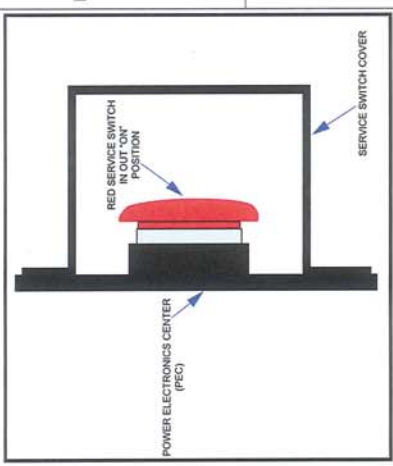

FIGURE 2 SERVICE SWITCH "ON"
- STEP 2: DISCONNECT HYBRID BATTERY PAC (PEC) BY DISENGAGING THE RED SERVICE SWITCH LOCATED ON THE REAR OF THE PEC FIGURES 2, AND 3.